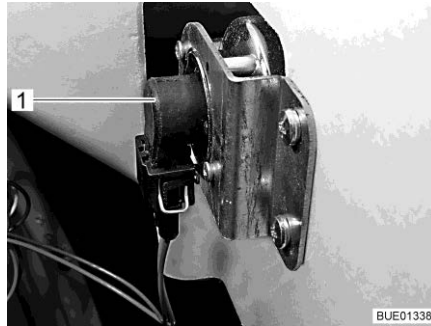

Fig. 219 Direction indicator
- Put your hand behind the lamp holder (Fig. 219,1).